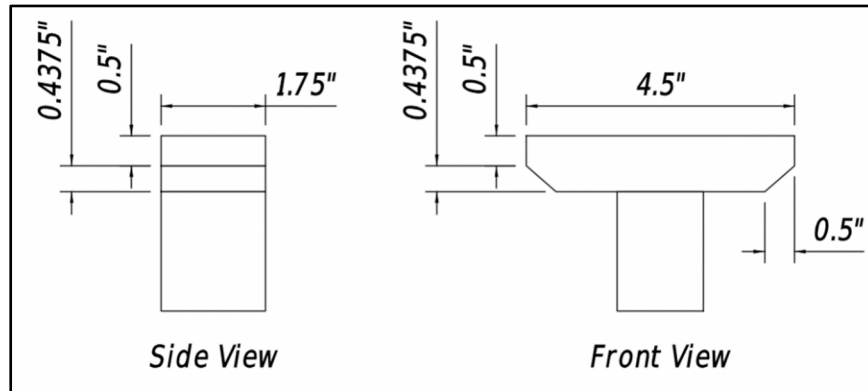

Figure 10. Support Detail
- f) Maximum width of the bridge shall be no more than 4.5 inches to fit on Pitsco Tester, refer to Figure 10.